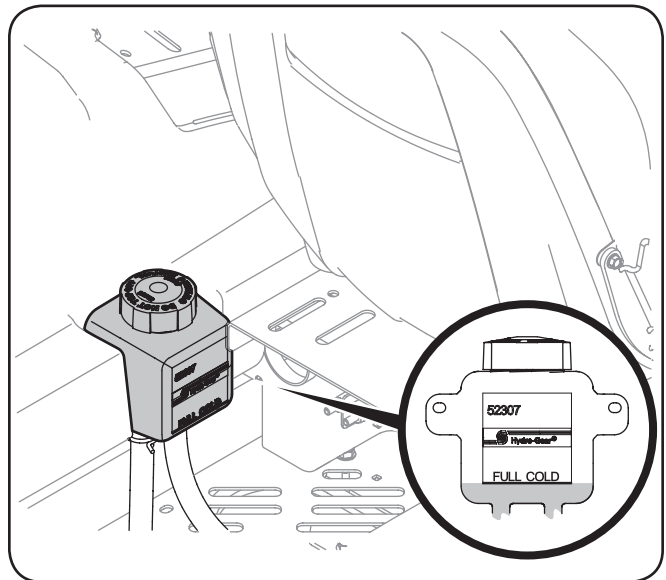

Figure 6-4
1. Pivot the operator's seat forward and clean the reservoir cap and the area around the cap to prevent debris from contaminating the transmission oil. See Figure 6-4.
2. Turn the reservoir cap counterclockwise to re-move, then check the oil level in the reservoir. Oil should be visible at the bottom of the cup, but the oil level must **NOT** be above the "FULL COLD" line. See Figure 6-4. **DO NOT FILL THE RESERVOIR.**
1. Remove the hex screws and flat washers securing the control lever to the lower arm assembly. Refer to Figure 6-4.